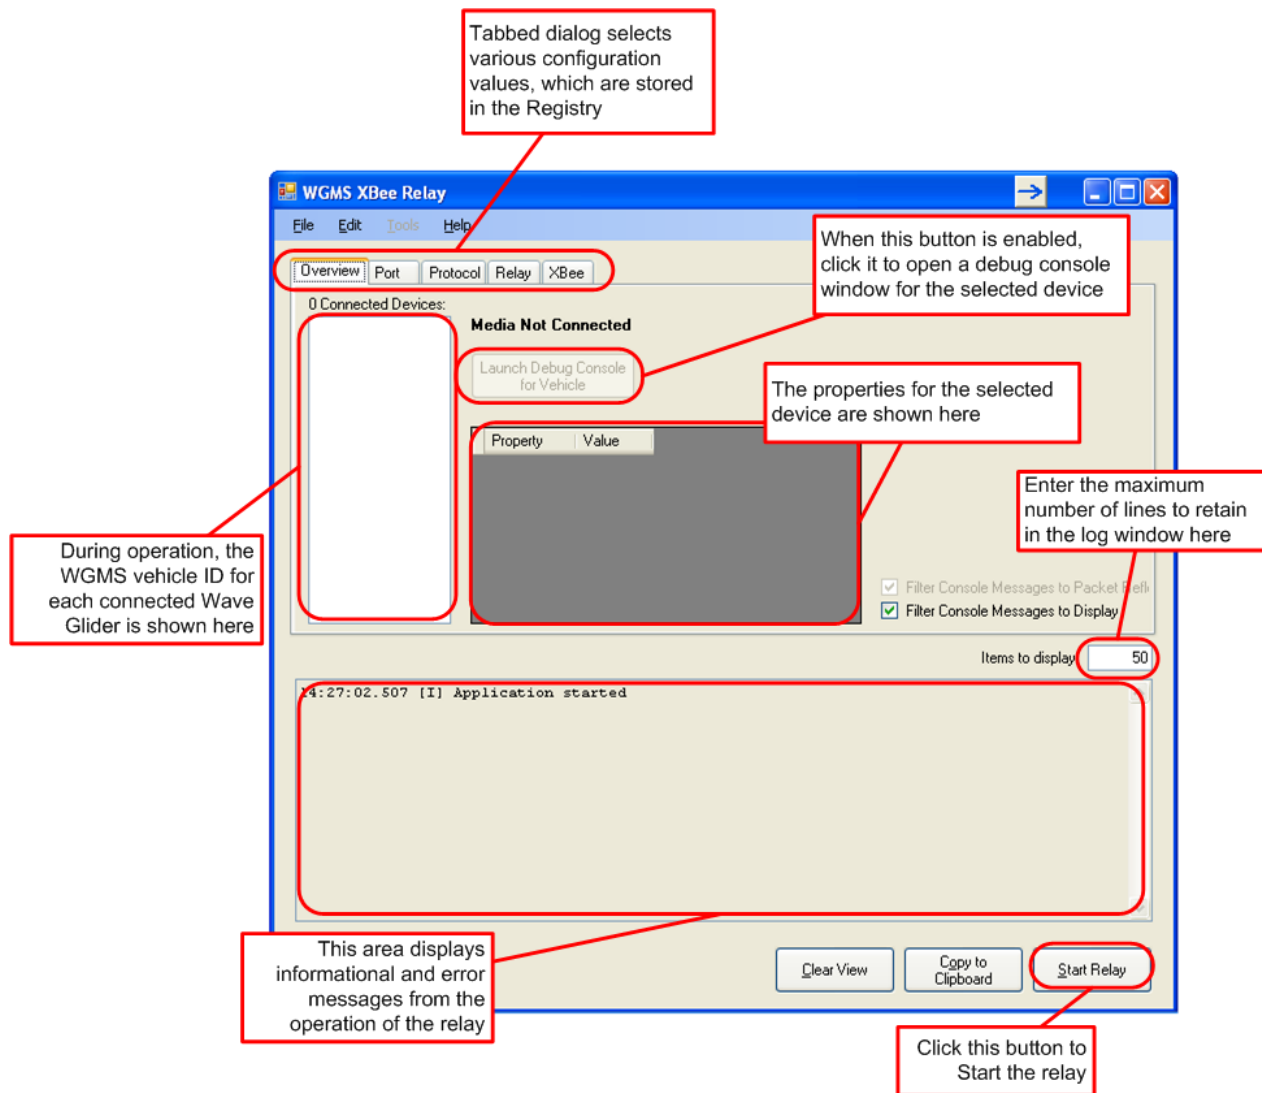

Figure 4-10: XBee Relay Annotated Start-Up Screen
- 1) After clicking on the **WGMS XBee Relay** icon or selection, the startup screen shown annotated in Figure 4-10 below should come up: